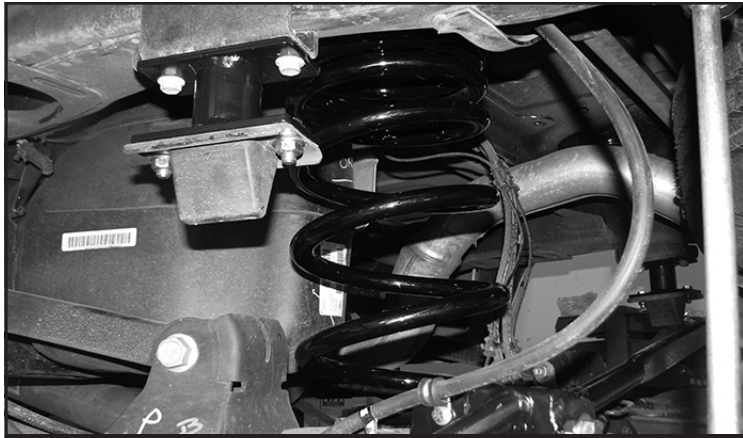

FIGURE 50 - STEP 44
44. Install (FT44279BK) Fabtech rear spring using the factory rubber isolators as shown. **SEE FIGURE 50**